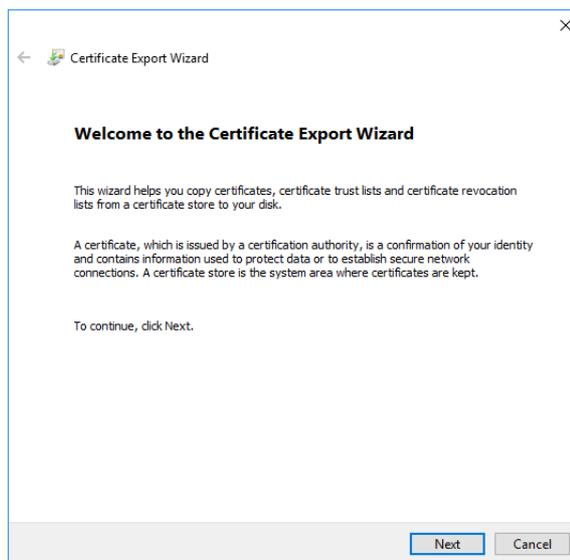

Figure 2-40. Certificate Export Wizard
5. Follow the **Certificate Export Wizard**, see Figure 2-40.